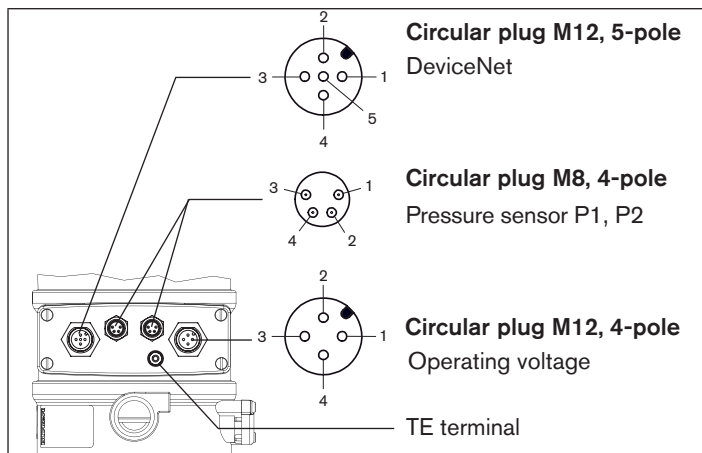

Fig. 14: Connection with DeviceNet
The electrical connection module of Type 8693 features a setscrew with nut which is used to connect the Technical Earth (TE) (see “Fig. 14: Connection with DeviceNet”).